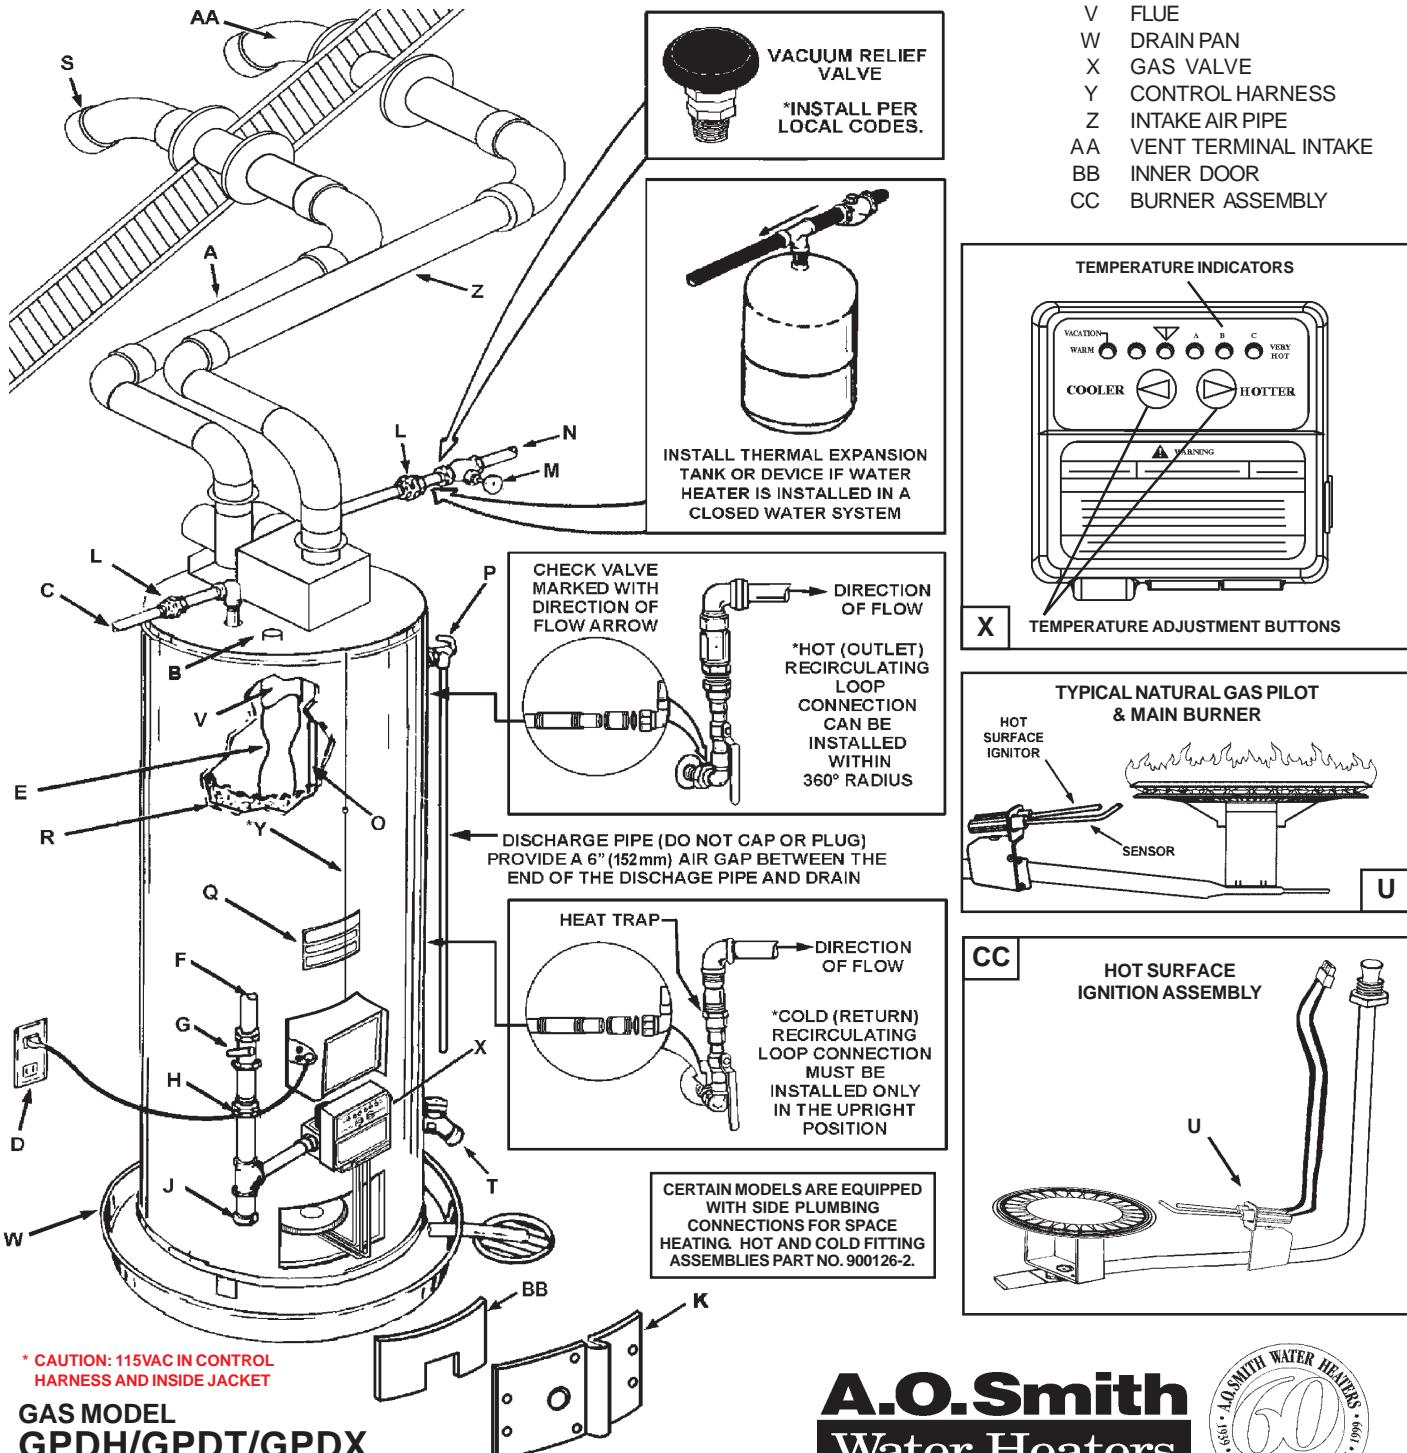

FIGURE 1.
Replacement parts and recommended delimer may be ordered through authorized servicers or distributors. Refer to the Yellow Pages for where to call or contact the A.O. Smith Water Products Company, 125 Southeast Parkway, Franklin, TN 37068, 1-800-433-2545. When ordering parts, provide complete model and serial numbers (see rating plate), quantity and name or part desired (as listed in Figure 1). Standard hardware items may be purchased locally.
Should you choose to apply an insulation blanket to this heater, you should follow these instructions, see Figure 1 for identification of components mentioned below. Failure to follow these instructions can restrict the air flow required for proper combustion, potentially resulting in fire, asphyxiation, serious personal injury or death.
When such locations cannot be avoided, a suitable drain pan should be installed under the heater, see Figure 1. The pan should have a minimum length and width of at least 2 inches (51mm) greater than the diameter of the heater and should be piped to an adequate drain. Drain pans suitable for these heaters are available from your dealer or A. O. Smith Water Products Company, 5621 W. 115th Street, Alsip, Illinois 60803.
Refer to Figure 1 for typical installation. A suitable pipe thread sealant must be used to prevent leakage.
A closed system will exist if a back-flow preventer (check valve), pressure reducing valve, or other similar device is installed in the cold water line between the water heater and the street main (or well). Excessive pressure may develop due to the thermal expansion of heated water causing premature tank failure or intermittent relief valve operation. This type of failure is not covered by the limited warranty. An expansion tank may be necessary in the cold water supply to alleviate this situation, see Figure 1. Contact the local plumbing authority.
REFER TO FIGURE 1 FOR CONNECTION DETAILS. BEFORE ATTACHING THE GAS LINE BE SURE THAT ALL GAS PIPE IS CLEAN ON THE INSIDE.
TO TRAP ANY DIRT OR FOREIGN MATERIAL IN THE GAS SUPPLY LINE, A DIRT LEG (SOMETIMES CALLED DRIP LEG) MUST BE INCORPORATED IN THE PIPING, SEE FIGURE 1. The dirt leg must be readily accessible. Install in accordance with recommendations of serving gas supplier. Refer to the current edition of ANSI Z223.1.
RELIEF VALVE (P)- See FIGURE 1.